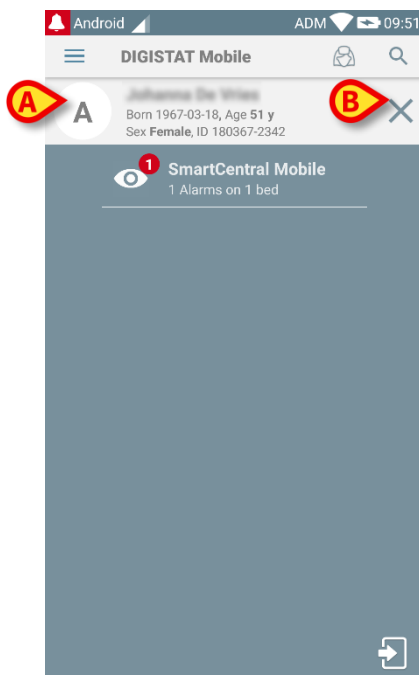

Fig 177
The patient will be this way selected (Fig 177).
Patient data are on top of the page (Fig 177 **A**). All the data in all the Digistat Mobile modules are now filtered by patient (i.e. all and only the selected patient alarms/notifications are displayed).
- Touch the cross indicated in Fig 177 **B** to deselect the patient and turn to “All Patients” mode again.
The patient will be this way selected. The screen shown in Fig 177 (example) will be displayed.
The patient will be this way selected. The screen shown in Fig 177 will be displayed.